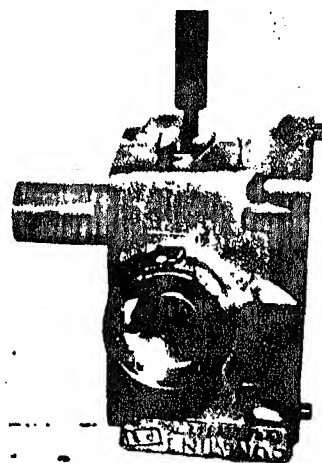

Fig. 503-8 Installing spring dowel in bottom of fuel pump housing
11. Install spring dowel into bottom of barrel with ST-853 driver with slot of pin to front of housing. Fig. 503-8.